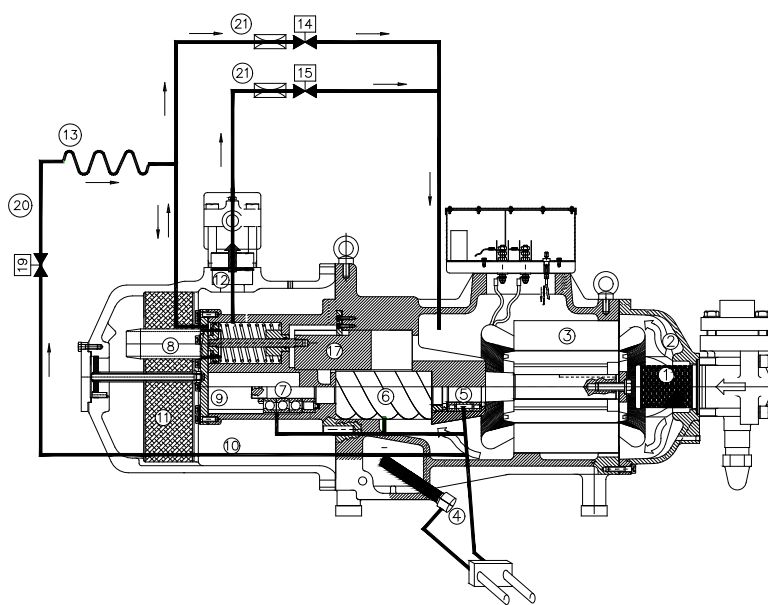

Fig. 22: infinite capacity control oil circuit (step less configuration)
The oil channels must be throttled to achieve slower motion and more accurate positioning of the control piston. With reference to the Fig. 22, the load channel (20) can be throttled by installing a modified capillary tube or a reduced orifice (13). The unload channel (14) or (15) can be throttled by installing an orifice (21) upstream the solenoid valve.
In the infinite configuration, on the other hand, this pipe is closed by the solenoid valve (19), see Fig. 22, which is normally closed. Consequently, unless the solenoid valve (14) is energized before stopping, the oil cannot flow out of the cylinder and as a result the compressor is not discharged.